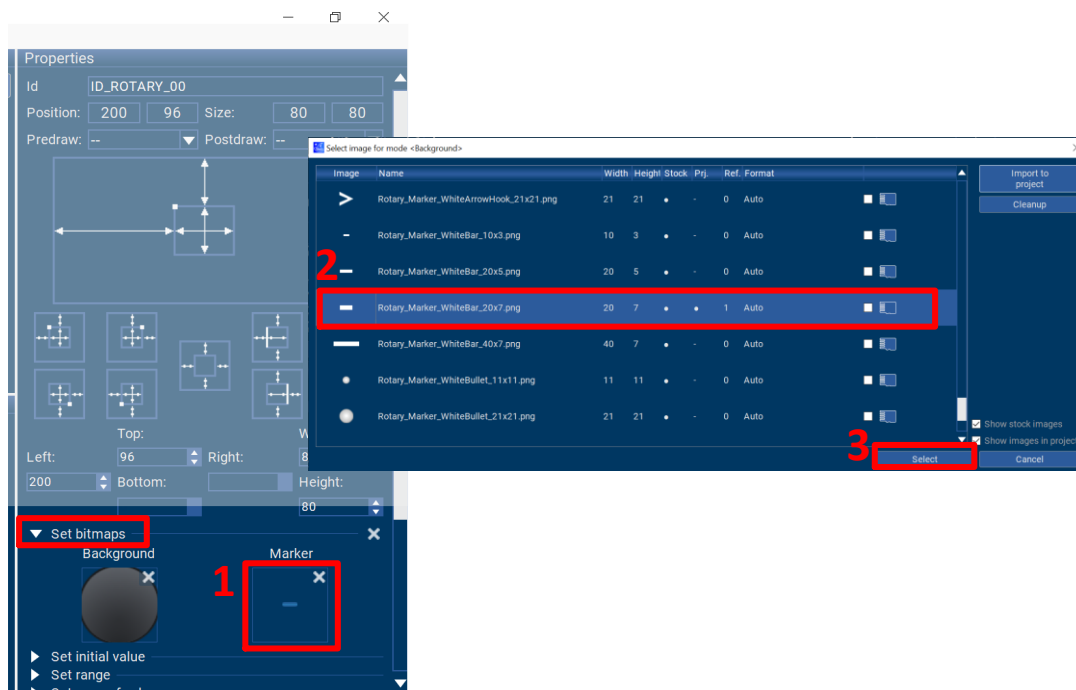

Figure 1-13 Rotary - Properties - Bitmap
- 3) Follow the steps shown in Figure 1-13. Repeat the same action for the Marker by setting the bitmap and selecting the desired image.  (Rotary_Marker_WhiteBar_20x7.png)